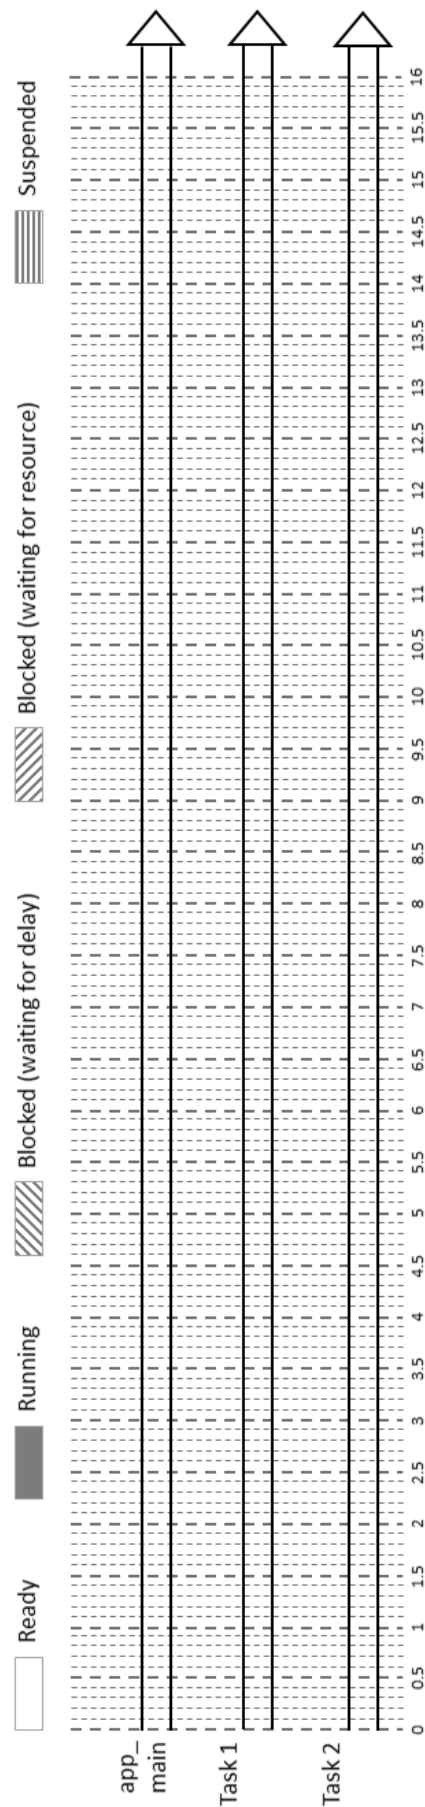

FIGURE 1.3 – Scheduling of 3 tasks with task delay.
16. Trace in the figure 1.3 the behavior of the *app\_main()*, *Task 1* and *Task 2* tasks until 160 ticks.